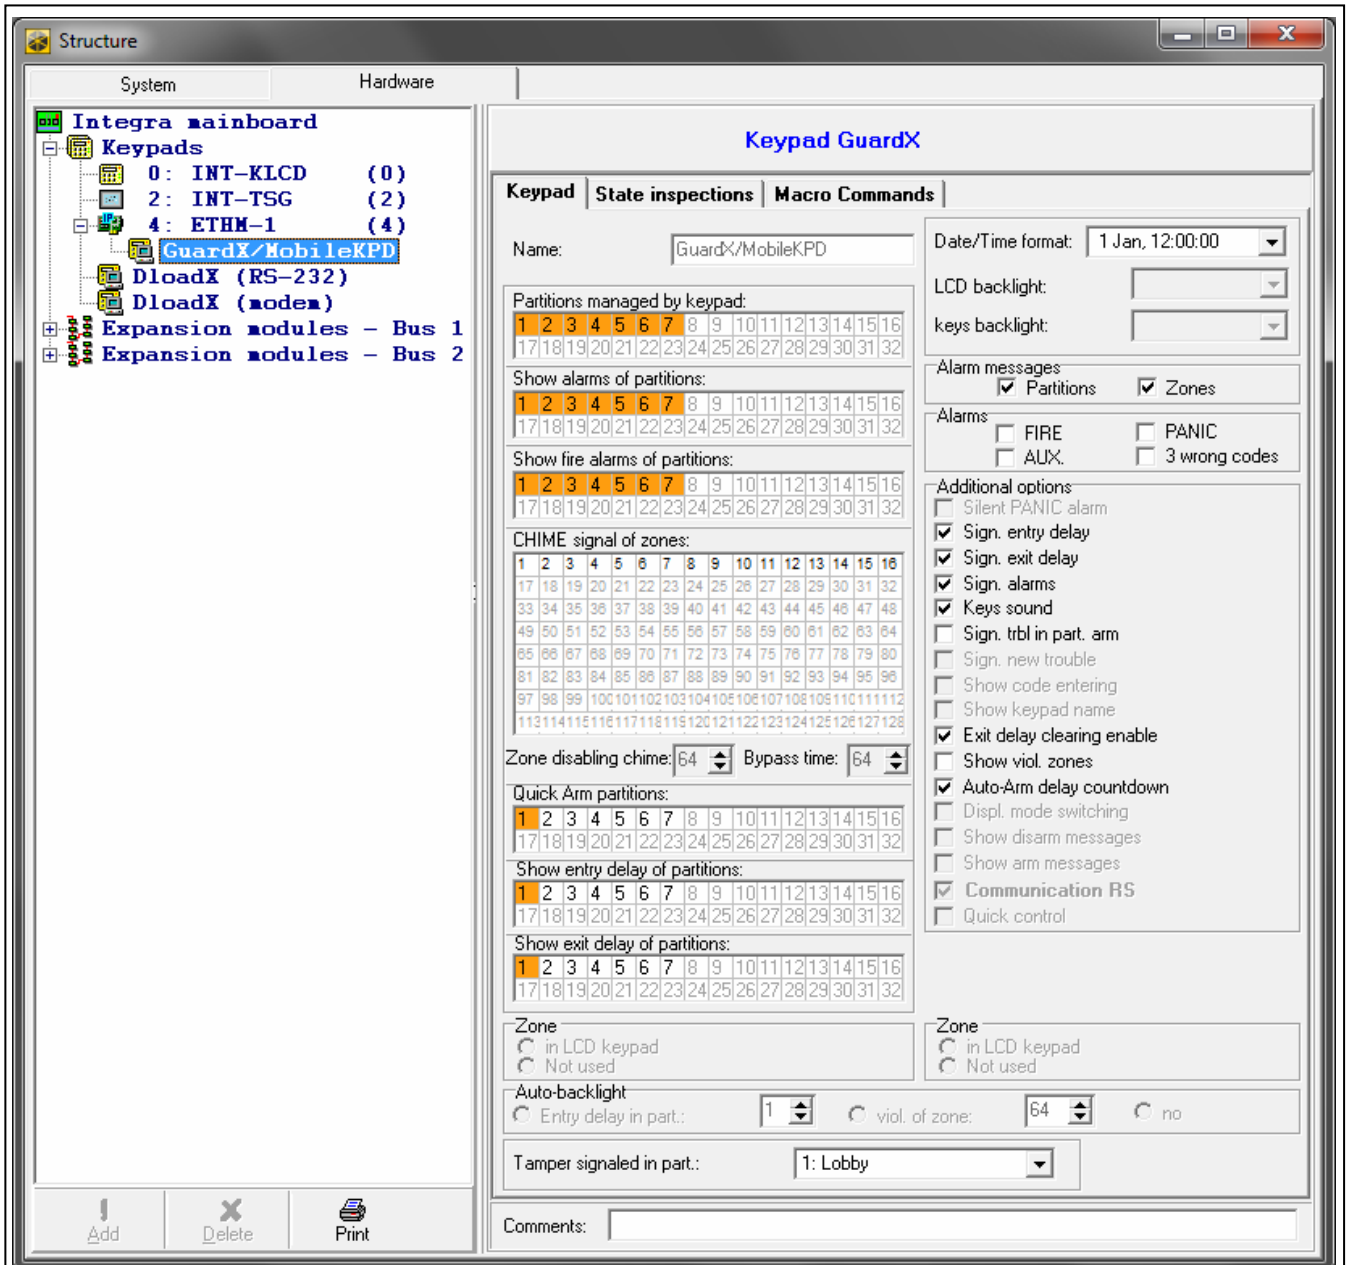

Fig. 7. DLOADX program: parameters and options of the virtual keypad available in GUARDX program, web browser or mobile phone.
- DLOADX program: →"Structure" window →"Hardware" tab →"Keypads" branch →[*module name*] branch →"GuardX/MobileKPD" item (Fig. 7).